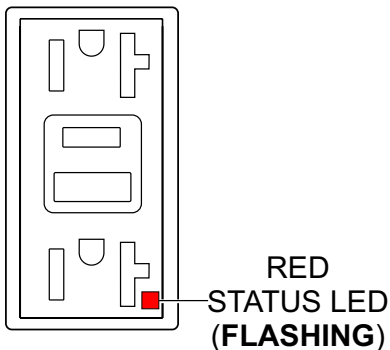

Figure 53. GFCI Receptacle (Red Flashing LED)
- If the status LED (Figure 53) is **flashing (RED)**, **DO NOT** use the GFCI receptacle and replace it immediately.